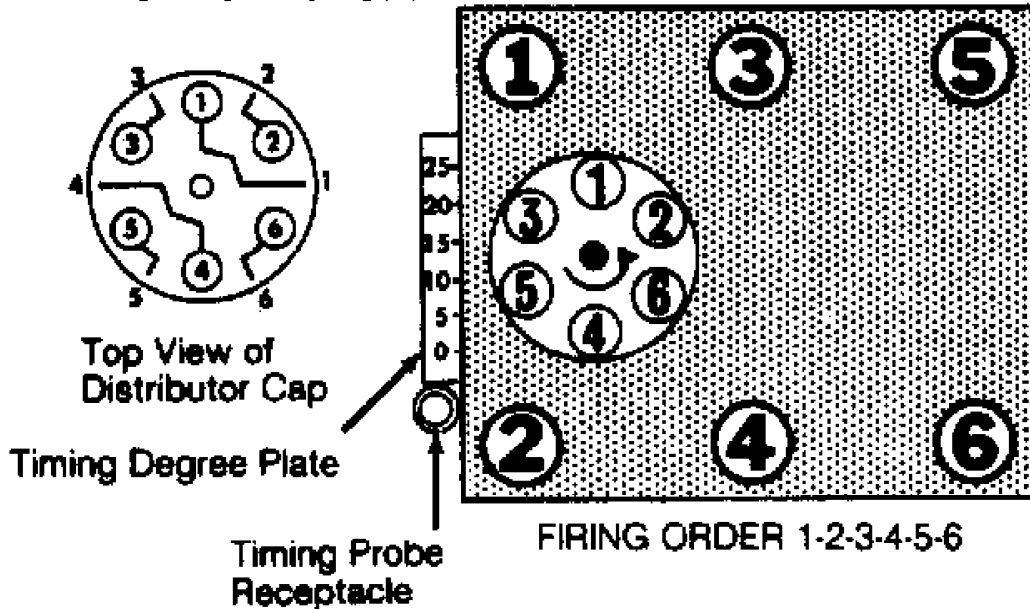

Fig. 2: Firing Order & Distributor Rotation (3.0L)
**WARNING:** On the 3.0L V6, the firing order and the spark plug connection order on the top of the distributor do not match. Circuits internal to the distributor cap differ from the external spark plug wire connections. This is intentional and is done to avoid spark plug wires crossover. See Fig. 2.